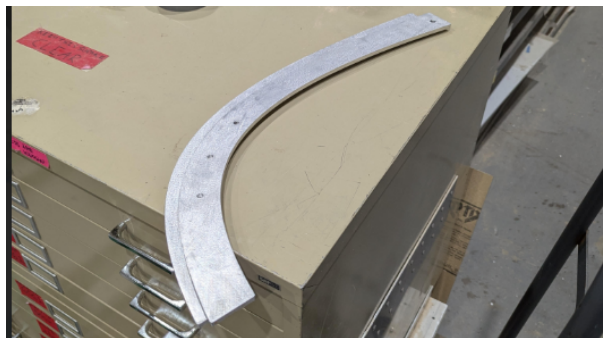

Figure 1: Dozer Arms (CNC Routed)
- **Dozer Arm:** As discussed in the previous ILR, the .dxf file of the dozer arms was used for CNC routing. The holes for the pivot point and the cross-members were also included in the .dxf to increase precision. The remaining holes for the yoke mounts and the blade mounts were manually made using a vertical drill (See Figure 1).